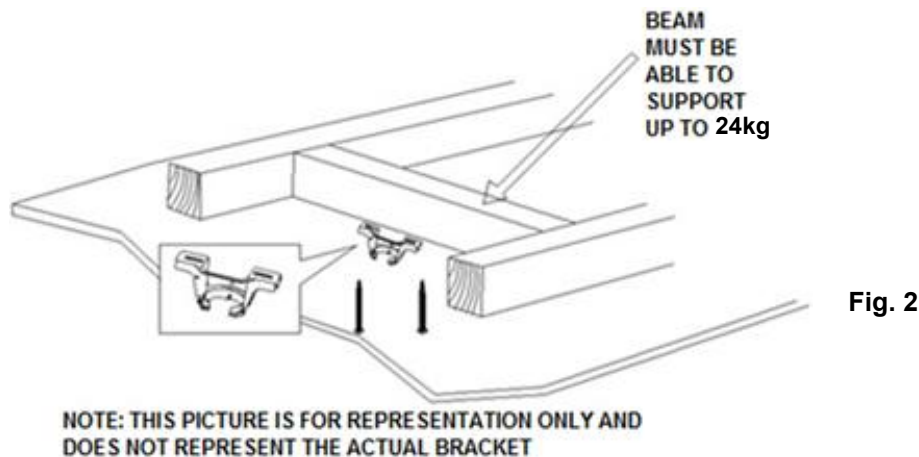

Fig. 2
INSTALLATION LOCATION OF THE CEILING FAN (Fig. 2)
- Install the hanging bracket to the ceiling joist or structure that is capable of carrying a load of at least four times the weight of the fan, with two long screws provided. Ensure at least 30mm of the screw is threaded into the support. (Fig. 2)